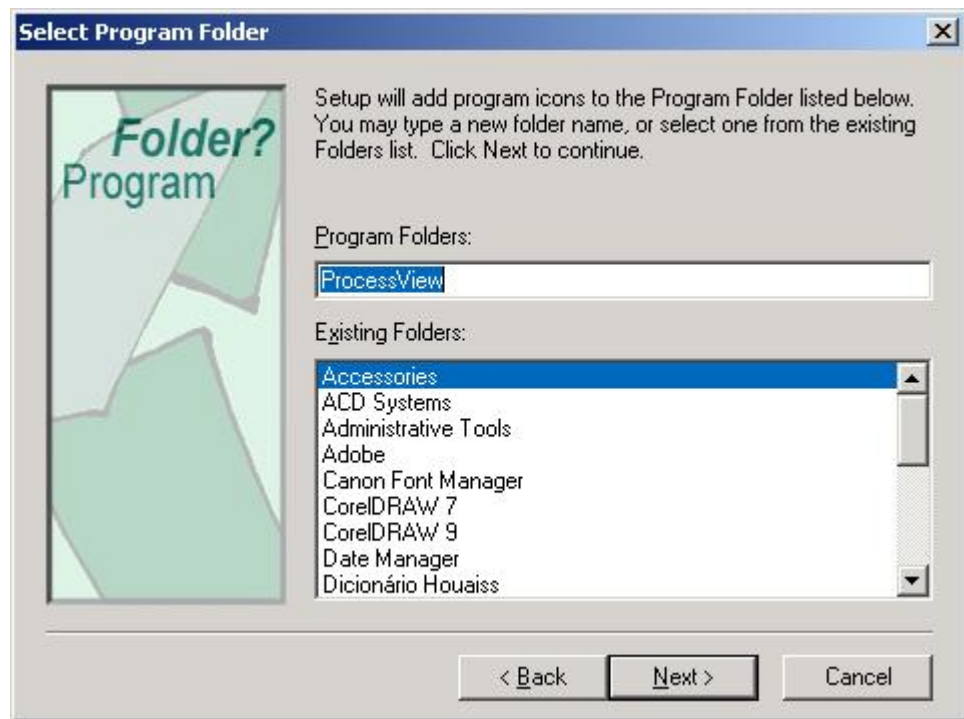

Figure 2.7. Selecting the Program Folder
10. The **Select Program Folder** dialog box appears, as shown in **Figure 2.7**. You can choose the program folder in which the software will be installed. The default folder in the **Program Folder** field is Smar ProcessView. You can keep this default, select an existing folder from the list, or type a new folder name in the **Program Folders** field. Click **Next** to continue.